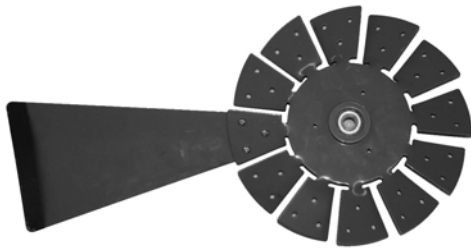

Figure 2
Attach the Fan Blades (H) to the Center Wheel (D) with the Fan Blade Bolts (F) and Self-Locking Nuts (G). Each Fan Blade (H) will use three bolts and nuts. The side of the Fan Blades (H) with the black edge should face to the front, and the Fan Blade (H) should be attached behind the blade on the Center Wheel (P). See Figure 2 for reference.